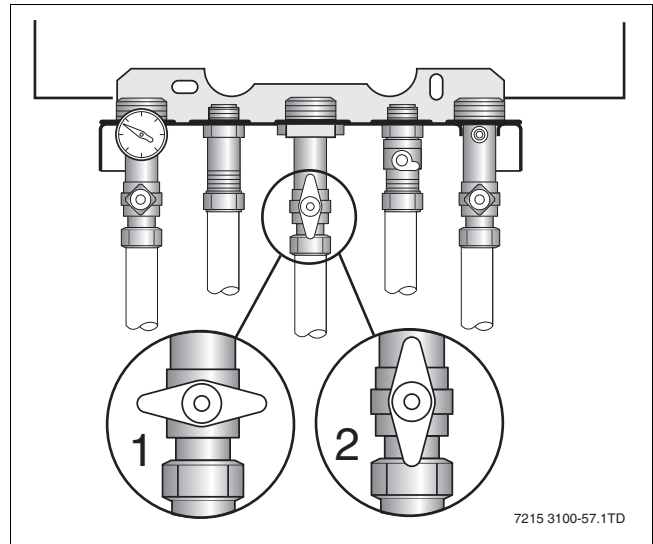

Fig. 57 Gas valve
- Close the gas shut off valve (→ fig. 57, item 1).
- Slowly open the gas shut off valve (→ fig. 57, item 2).
- Shut the gas shut off valve underneath the boiler (→ fig. 57, item 1).
- Open the gas shut off valve (→ fig. 57, item 2).